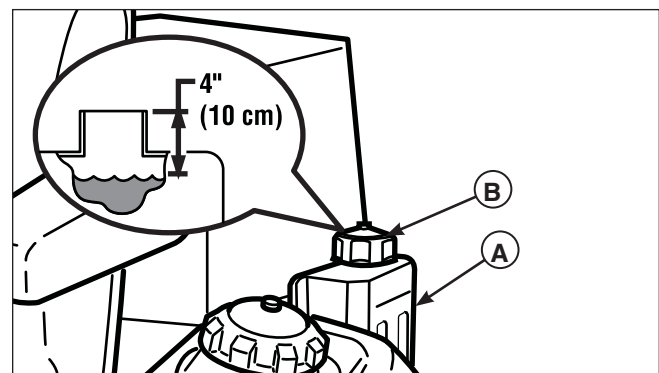

Figure 21. Checking Hydraulic Oil Level
2. Unscrew the reservoir cap (B, Figure 21).
3. Look down the filler neck of the hydraulic oil reservoir (A, Figure 21) and observe the oil level. When cold, the oil level should be approximately 4" (10 cm) below top of the filler neck.